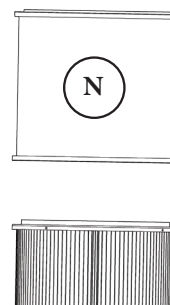

FIG. 13
- 13** To install the Stacking Sound Filter (N) refer to the included instruction sheet:
- **Stacking Sound Filter Sheet #ZBI131816** [FIG. 13]